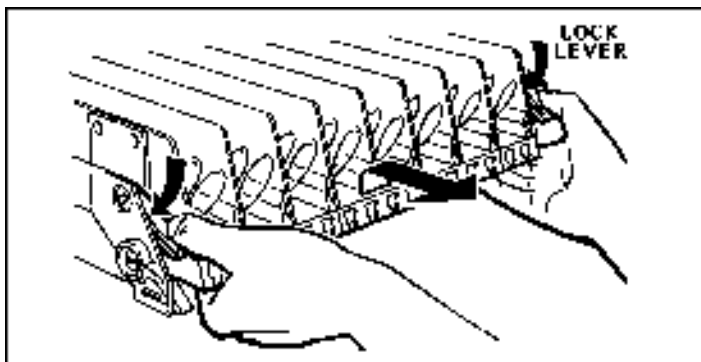

Figure 1. Moving shelf into loading position.
3. **Loading Snack Shelves.** Open door to full open position, push down on white and gray plastic lock levers (*Figure 1.*) on right side panel by shelf to unlock shelf, holding lever down. Grasp the shelf slightly and pull forward until shelf reaches its stop. The shelves tilt down (do not drop) to make loading easier. **Only one product shelf should be in the loading position at a time.** When returning a shelf, be sure the shelf is in its full home or vend position. Begin loading with the top shelf. Move it to the loading position. The height spacing for items is greatest in this shelf and the tallest bagged items should be placed there. Soft items, such as